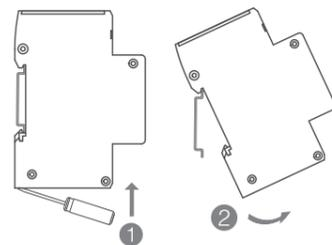

Fig.4 Schematic diagram of disassembly
7.2.2 Disassembly procedure, as shown in Figure 4 below.